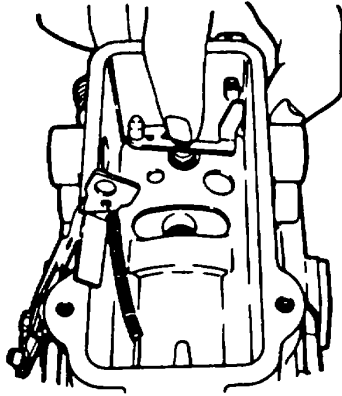

FIGURE 3-98. Installing Metering Valve
- au. If necessary, assemble arm (45), shim (49), and metering valve (48).
av. Install spacer (51), shim (50), and metering valve/arm assembly into bore in housing. Depress and rotate valve several times to ensure freedom of movement. If valve sticks, clean off with clean calibrating oil, refer to FIGURE 3-98.